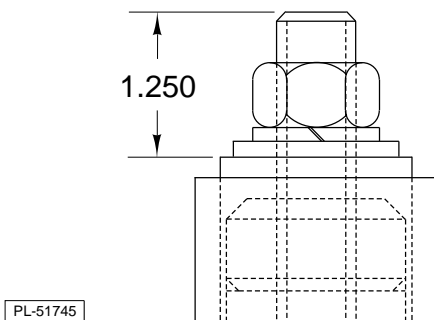

Fig. 1
4. Set this dimension (See Fig. 1) during application of primer 544434-2 and adhesive 526407. Apply primer to threaded stud, allow to dry, and apply adhesive to threaded stud.